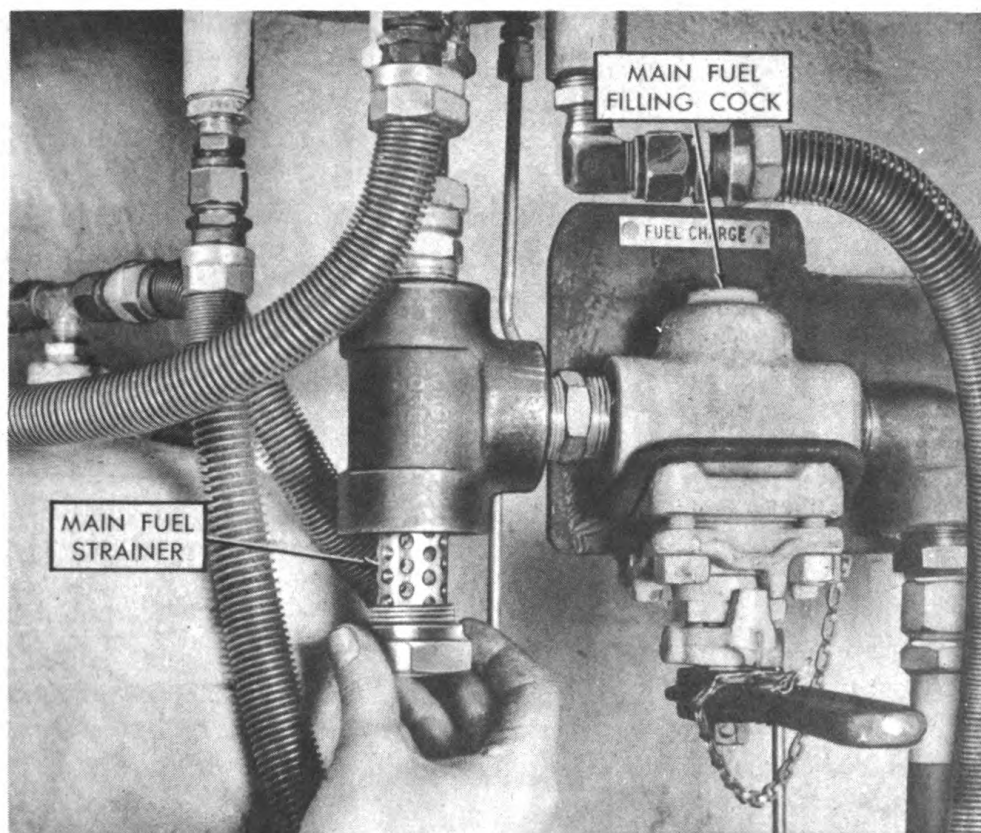

Figure 32—Removing main fuel filling line strainer.
a. Strainer in main fuel filling line (fig. 32). Remove and clean fuel strainer by washing with motor fuel. Then blow strainer dry.